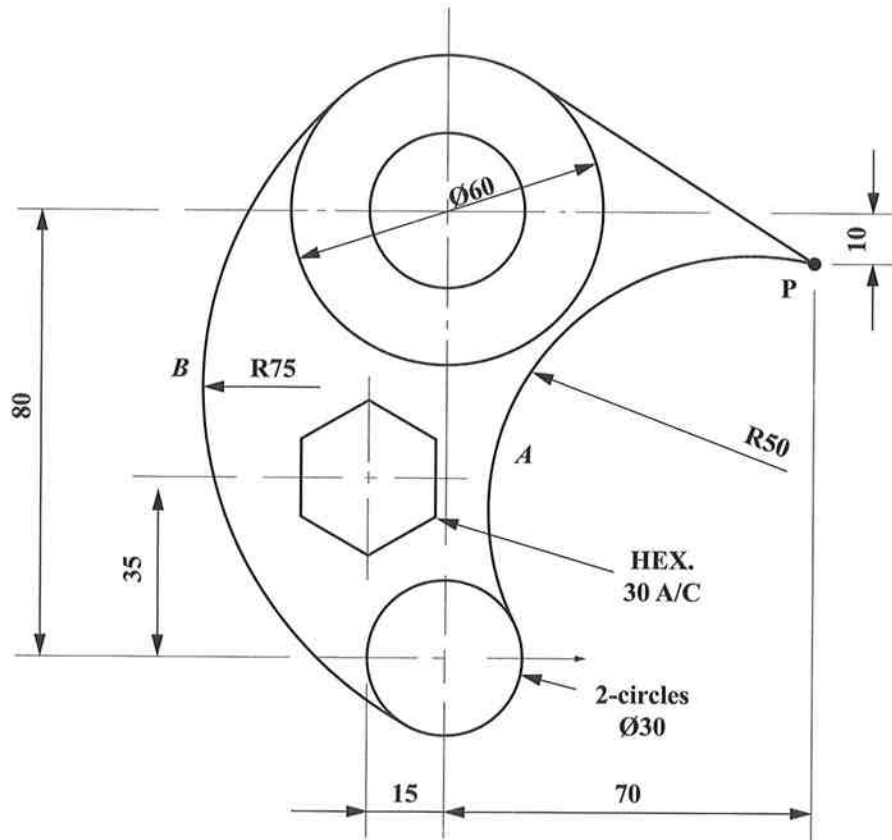

Figure 2
3. **Figure 2** shows a template of a metal cutter.